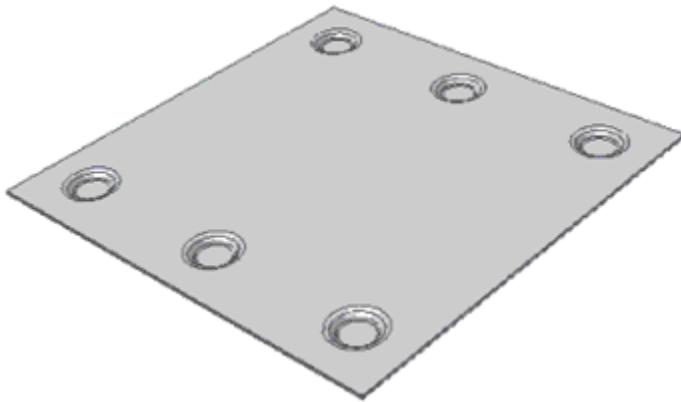

Figure 25: Completed tutorial.
13. Click OK. The part should match the one shown in Figure 25.